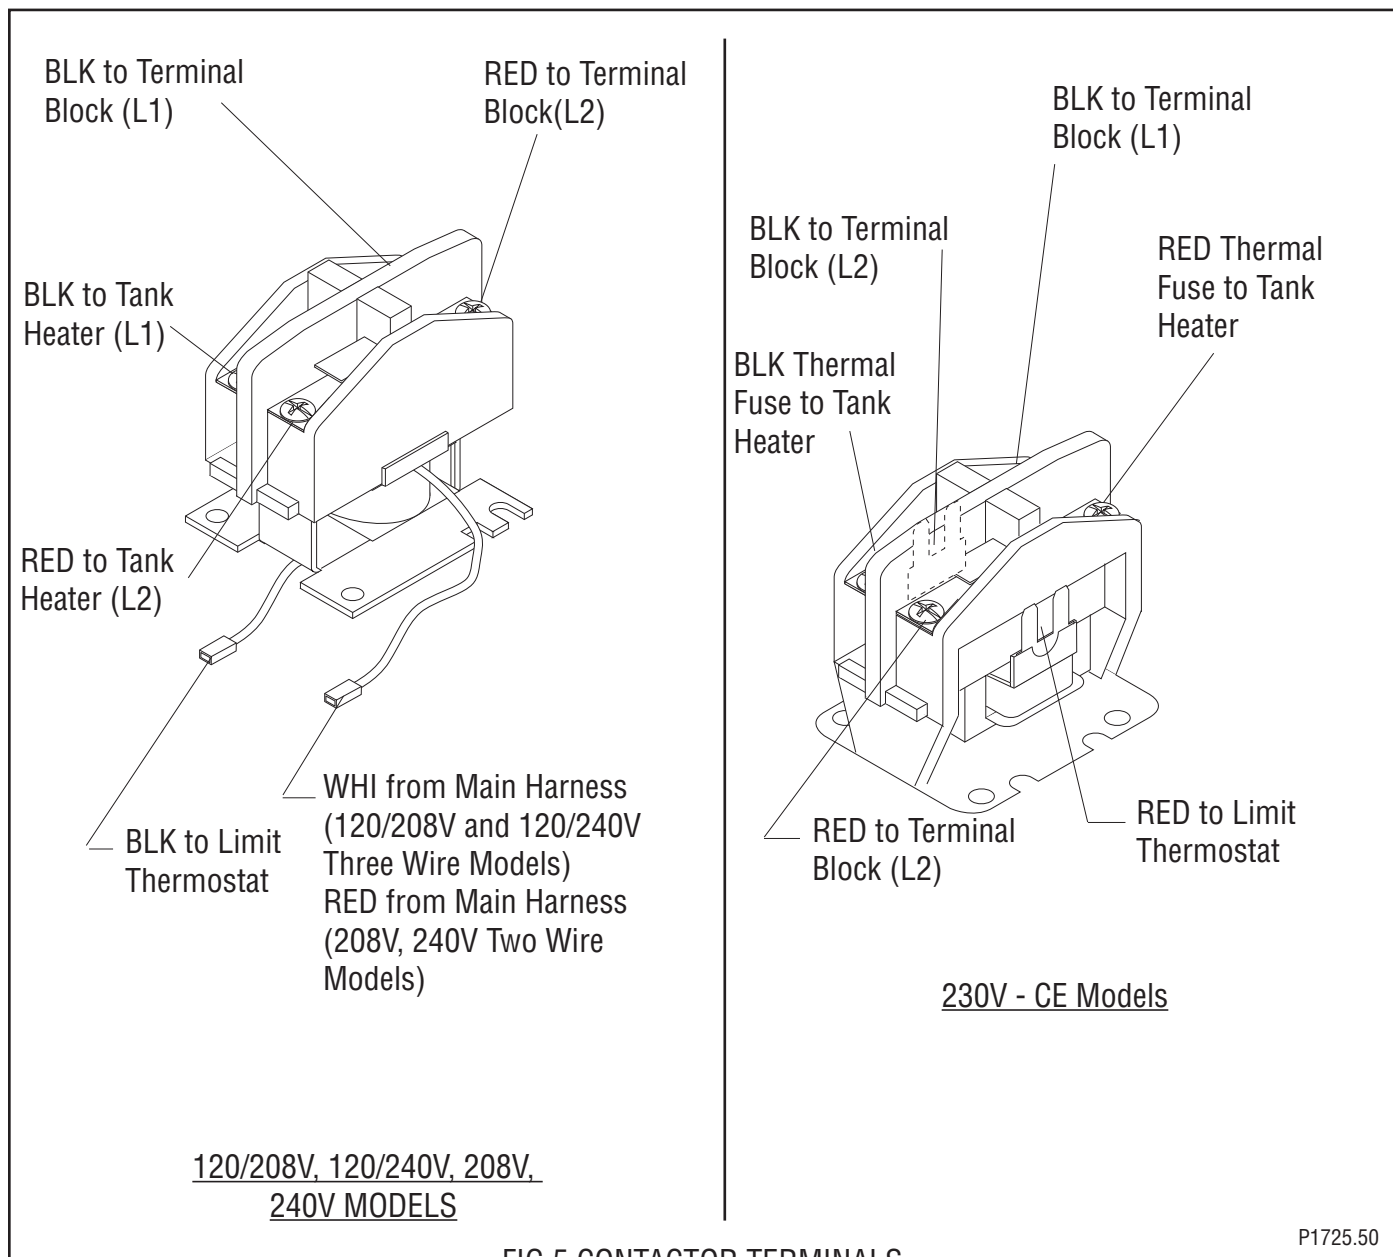

FIG.5 CONTACTOR TERMINALS
4. Refer to Fig. 5 and reconnect the wires.